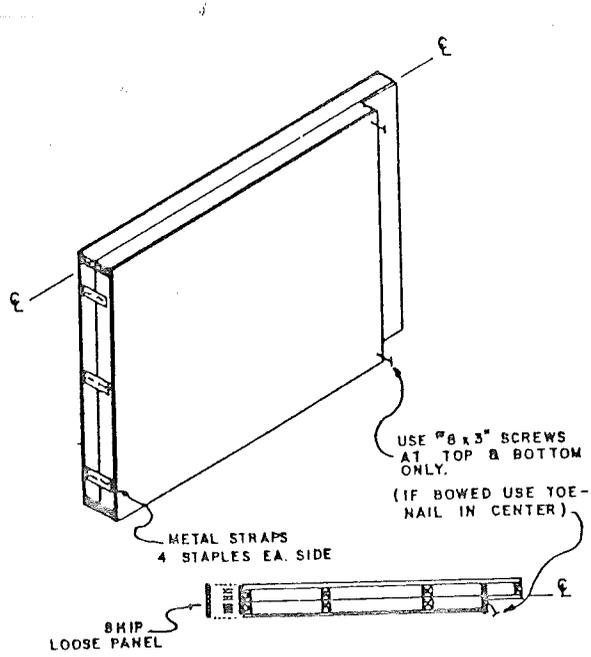

FIG. 12
7. Refer to figs. 12, 13 & 14 for instructions on fastening interior marriage walls.